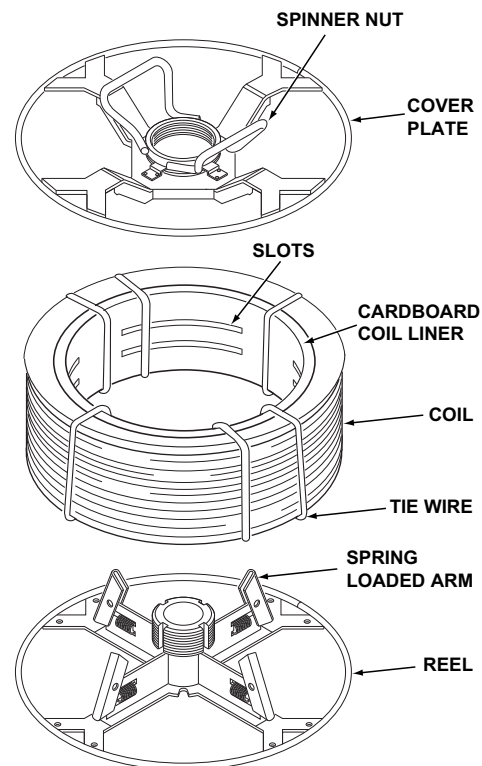

FIGURE B.2
- 1) With the K1504-1 Coil Reel mounted on to the 2" (51 mm) spindle (or with reel laying flat on the floor) loosen the spinner nut and remove the reel cover. See Figure B.2.